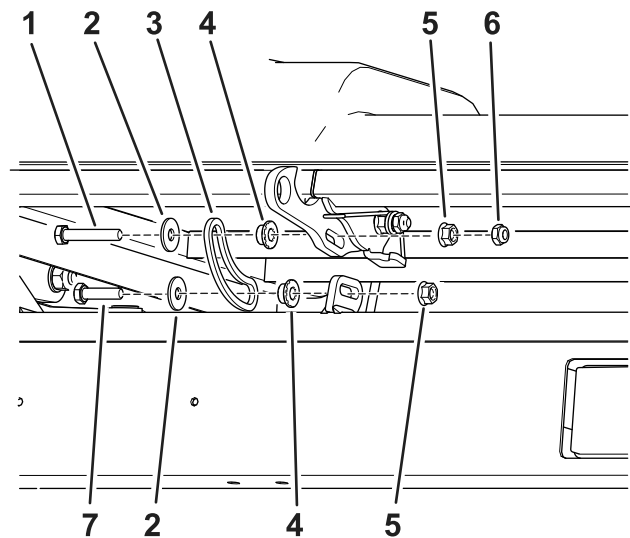

Figure 4
2. Install the rod connector to the hook with a long bolt, flat washer, bushing, flange nut, and locknut (Figure 4).
3. Install the rod connector to the hook with a short bolt, flat washer, bushing, and locknut. (Figure 4).